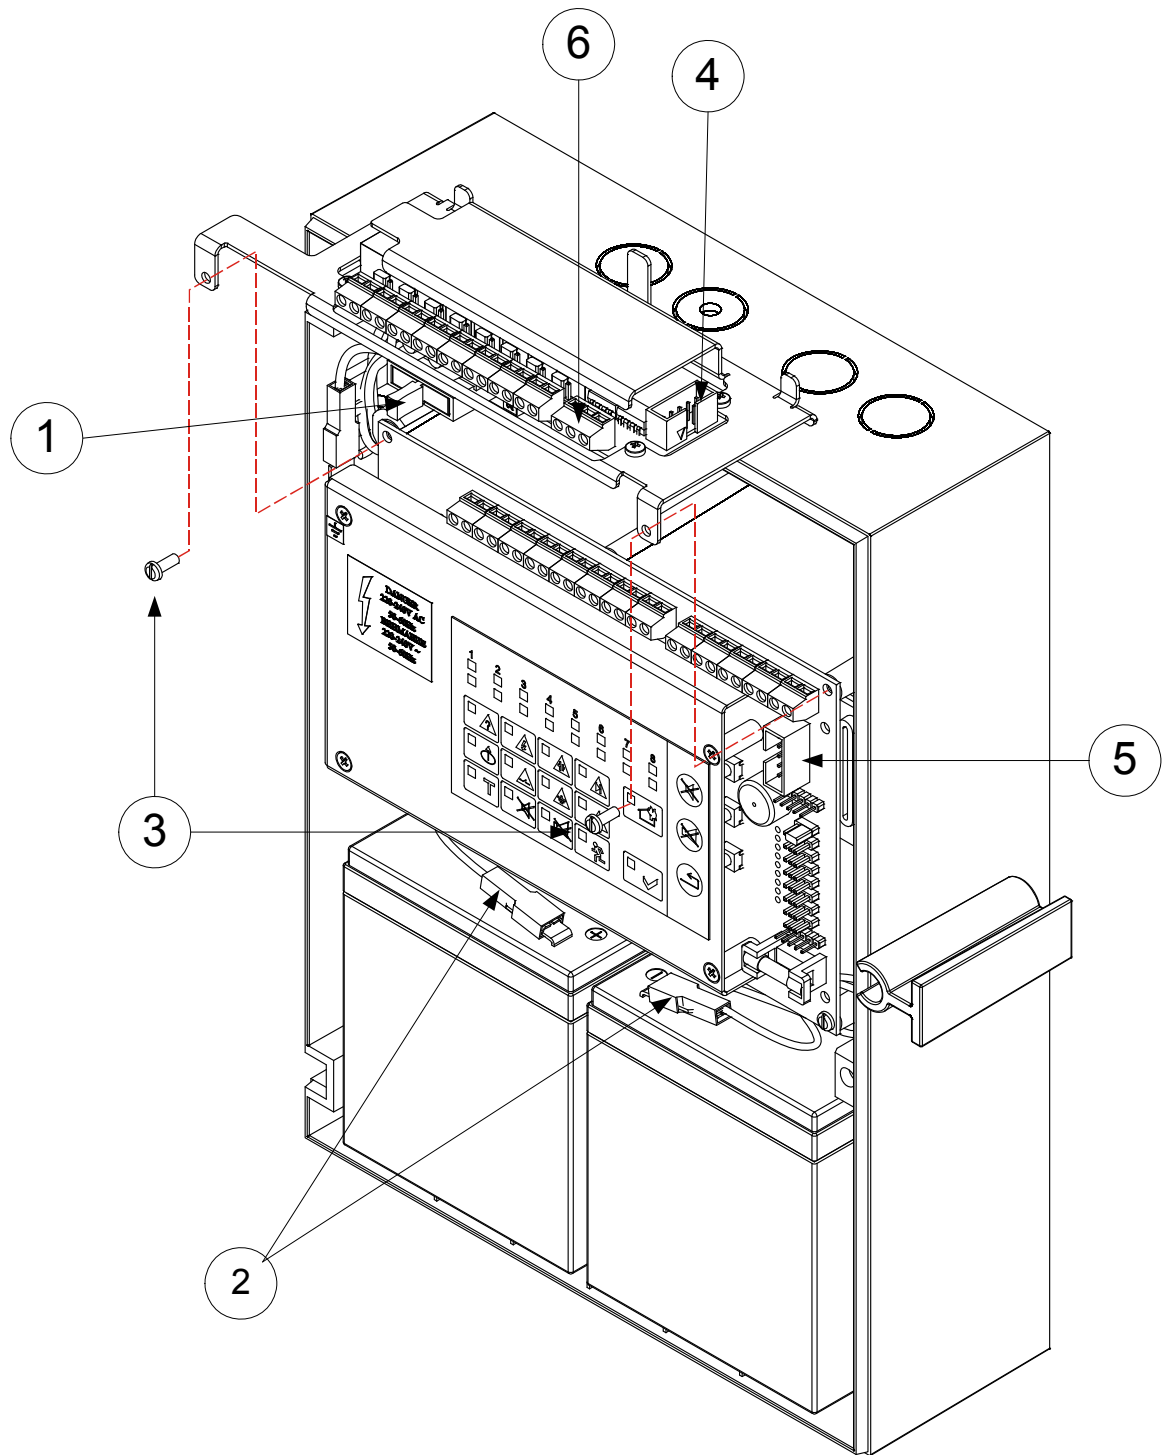

Fig.3
2.2. Remove fuse Fu1 from the jack, pos. 1 (fig. 3).
2.3. Disconnect the wires from the terminals of the backup batteries, pos.2 (fig.3).
2.4. Unscrew both screws, pos.3 (fig.3).
2.5. Place the module as it is shown on fig. 4 and fixed it by means of both screws, pos. 3 (fig.3).
2.7. Connect the ribbon cable to the module, pos. 4 (fig.3) and to the coupling of the fire control panel, pos. 5 (fig.3). The couplings are provided with a slot, determining the direction of the connection.
4.1. Place the mains fuse of the fire control panel Fu1 in its jack, pos. 1 (fig. 3).
4.2. Connect the backup battery power supply, pos.2 (fig.3). The fire control panel enters Duty Mode.